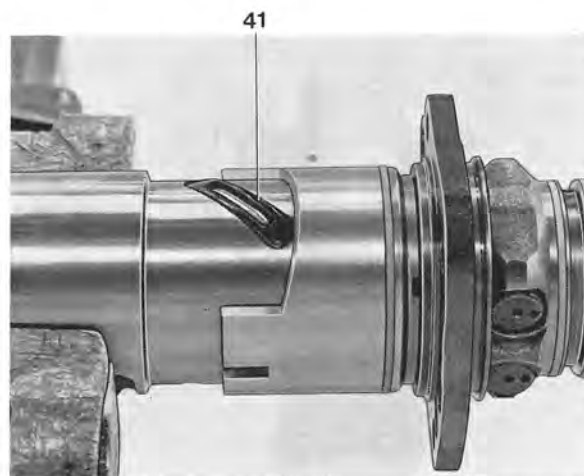

Fig. 6-80. Packing installed
Insert the worm into the piston while fitting the 23 balls, see under point 7. Fit the packing (41), see Fig. 6-80. Assemble the piston and sleeve and fit the pin (23), if it was removed. The sleeve recess should be on the tooth side, see Fig. 6-81. Warning! The worm must not be pulled so far out of the pistons that the balls fall out (into the piston). Pull out the ring (27) and lock it, see Fig. 6-81. Protect the worm from any metal filings.